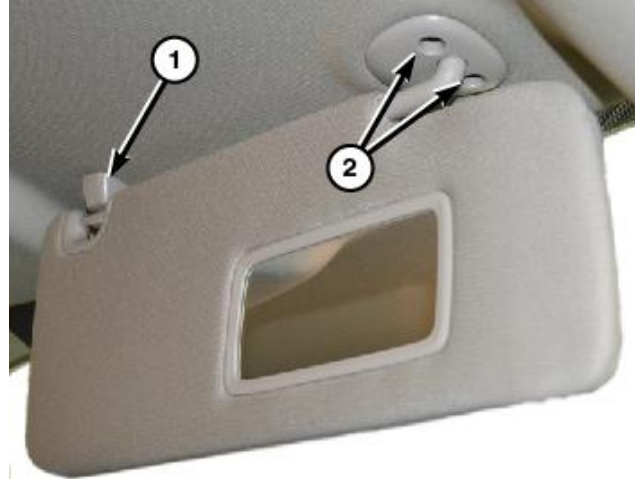

Figure 79 – Visors
20. Separate the visor from the support (1) then remove the screw and remove the visor support (Figure 79).
21. Remove the visor screws (2) then remove the visor (Figure 79).
45. Position the visor supports (1) onto the headliner and install the screws into the mounting clips (Figure 79).
47. Position the visor to the headliner and install the screws (2) that secure the visor to the roof panel. Tighten the screws to 6 N·m (53 in. lbs.) (Figure 79).